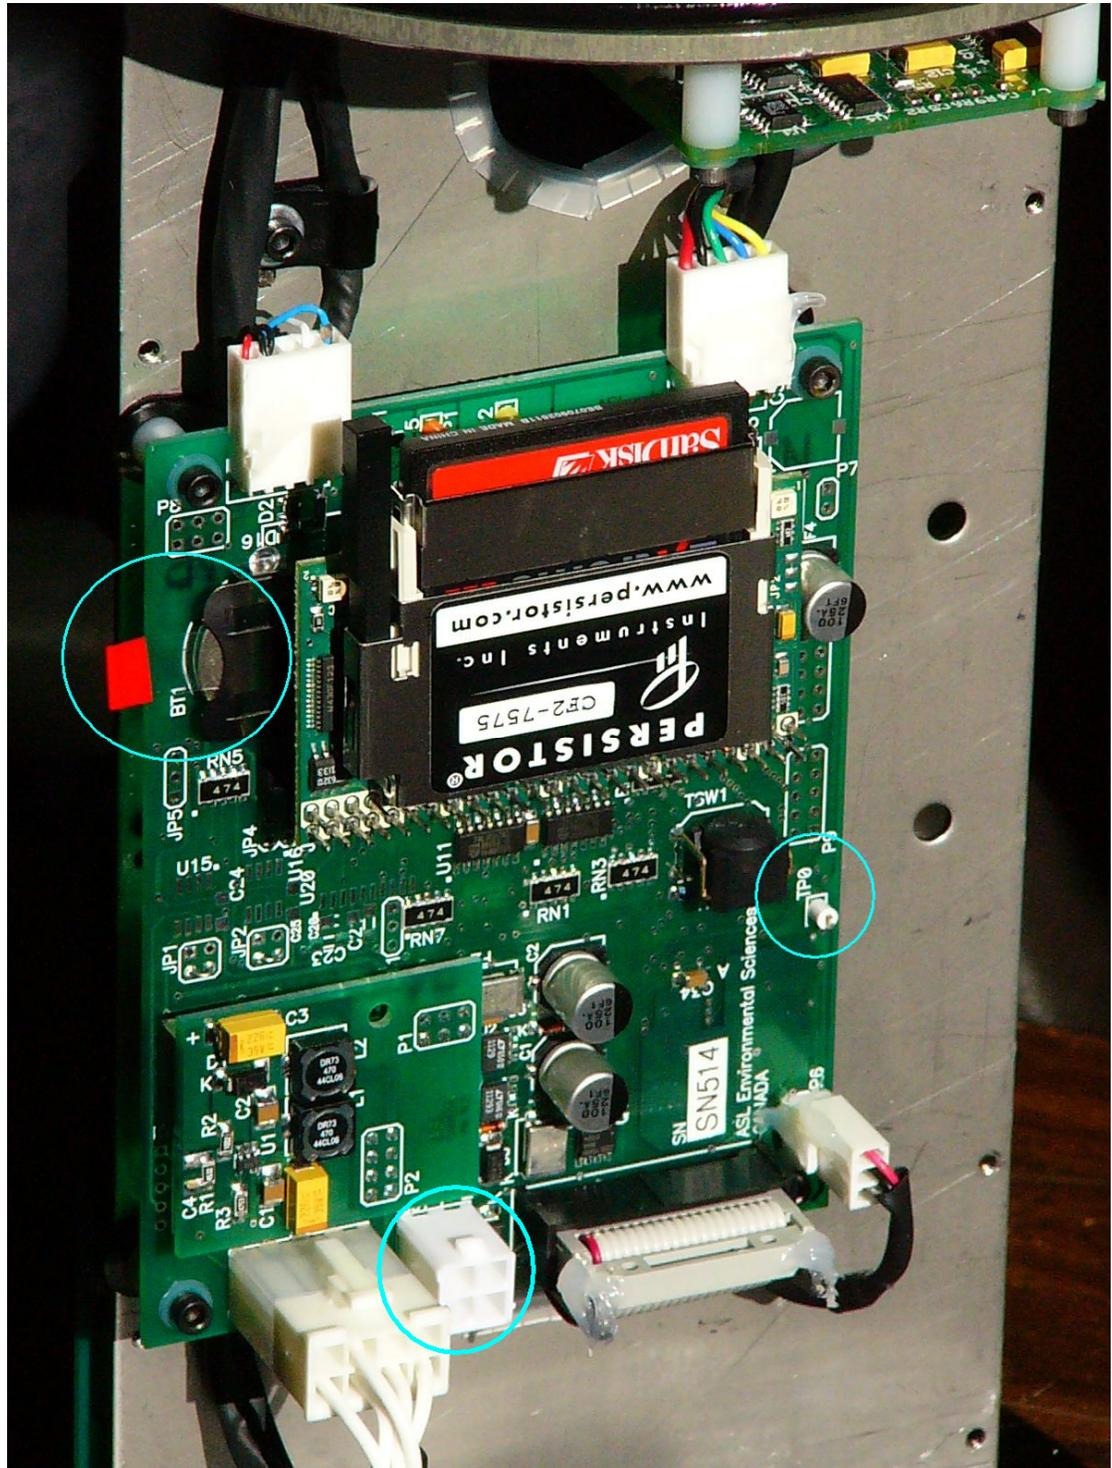

Figure 5 "Button" Battery Location, Ground Reference Test-Point and Main Battery Connector Locations
The battery connector has a square cross section and has orientation features that ensure it can only be plugged in correctly. The battery packs use alkaline cell technology and don't require any special disposal protocol. The photo in Figure 5 shows where the main battery plugs into the "digital" board.
The AWCP also has a medium sized button style battery (3 volt type CR2032) located in a clip on the middle right-hand side of the Digital Board (See Figure 5). The red pull tab is for removal of the battery only! It's not an insulating strip as found in some consumer products to prevent battery drain before purchase.
This battery provides battery back-up for the real time clock only when the main battery pack is disconnected. The battery should be checked periodically (a ground reference test point is provided for this – see Fig. 5) and replaced when its voltage has dropped below 2.2 volts.
- Connect the internal battery to the "digital" board- connector is shown in Figure 5.
- Re-insert the FLASH into the instrument (using figure 5 as a guide). Wear an anti-static wrist strap if available. Push the FLASH module back into its socket while supporting the Persistor computing module with your thumb along the back/long edge.